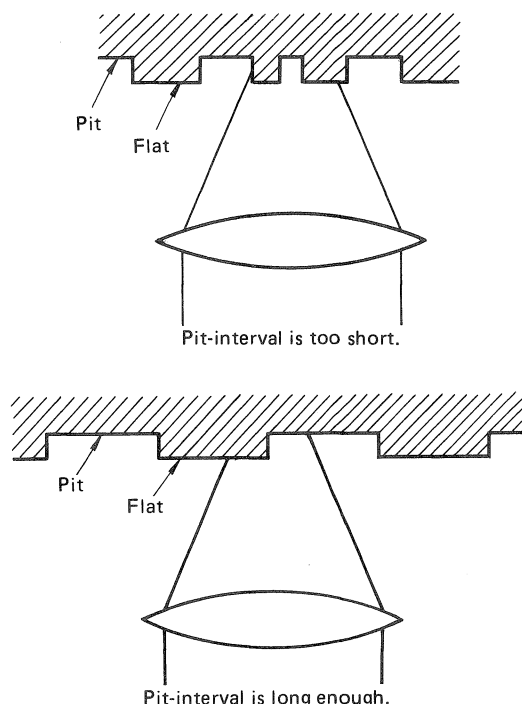

Fig. 16 Inter-pits Interference
- To make the high end of the frequency spectrum low, the shortest pit should be 3 bits long or there must always be at least two 0's between successive 1's. The greater the minimum length between transitions (T_{min}), the better. When pits or flats are very close to each other, as shown in Fig. 16, the beam cannot read the edge of the pits correctly.